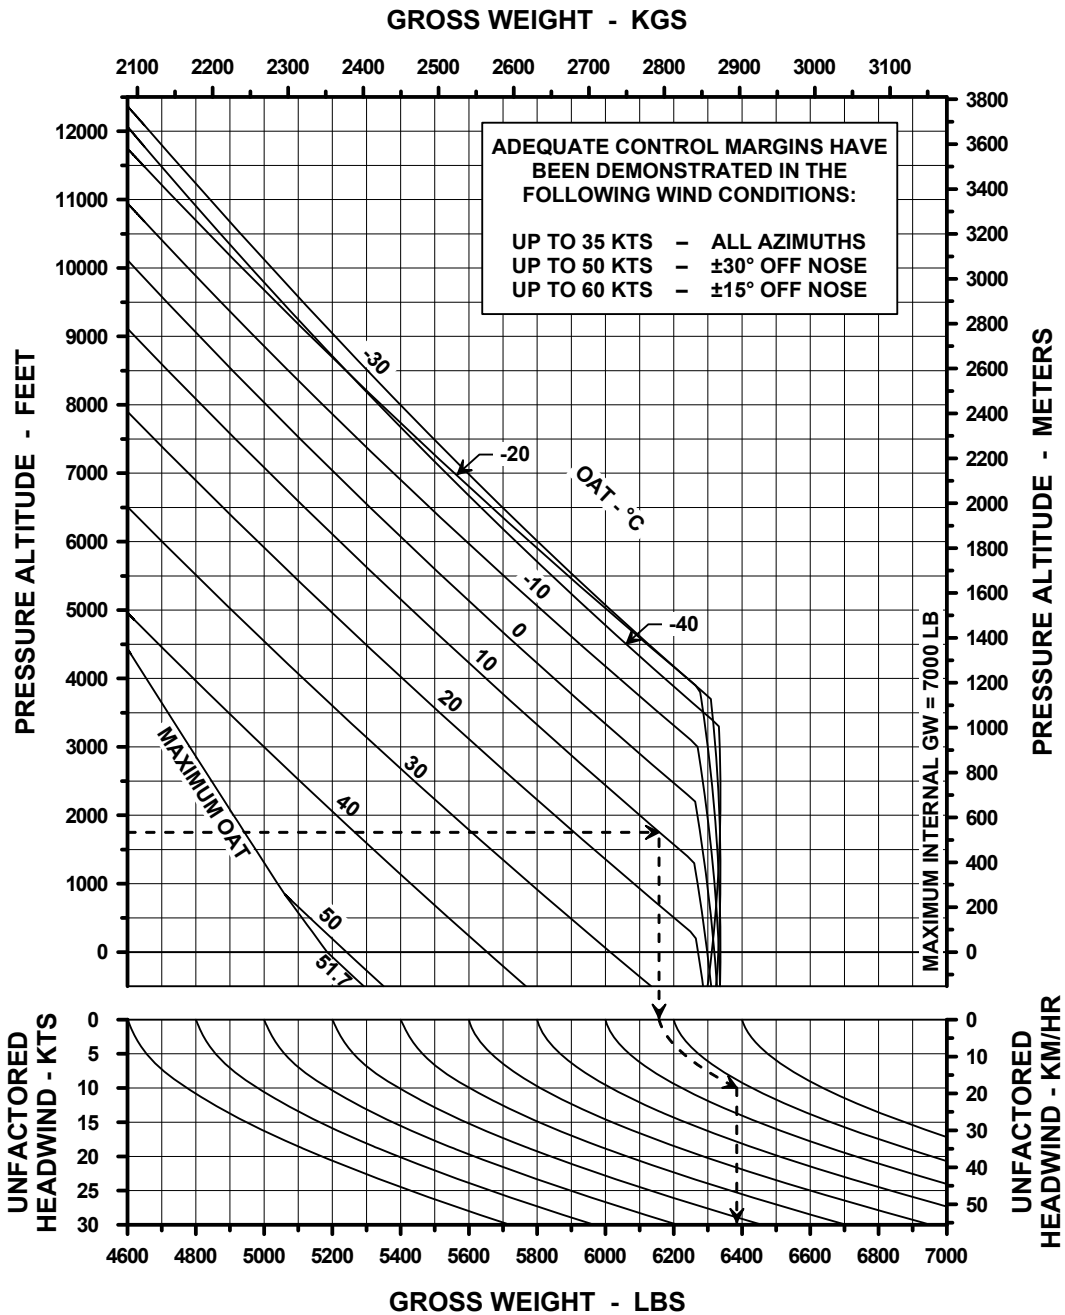

Figure 4-6. Hover Ceiling OGE — 2-Minute OEI Power
To determine maximum gross weight that can be sustained in an OGE hover at 2 MIN OEI power, use the Hover Ceiling OGE — 2-Minute OEI Power chart (Figure 4-6).
- b. To determine maximum GW, use Hover Ceiling OGE — 2-Minute OEI Power chart (Figure 4-6): Enter on left of chart at 1750 feet